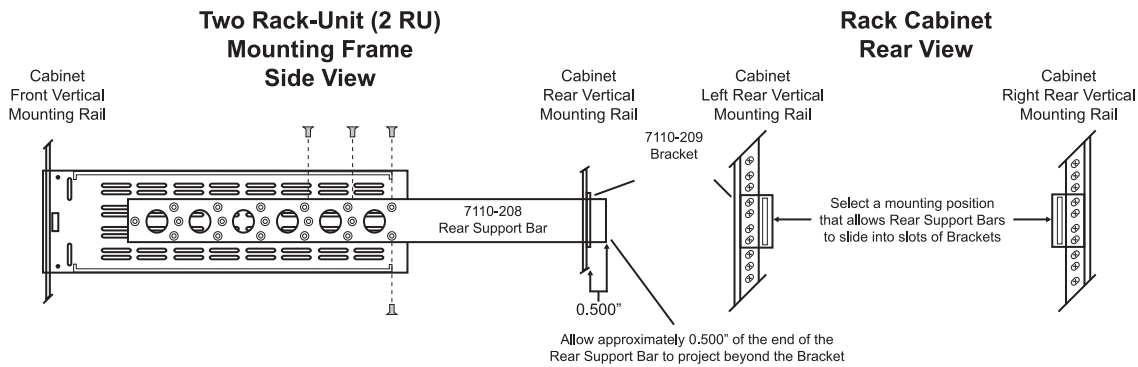

Figure 3.3 FSB-7110 Rear Support Bars and Brackets
The rear support bars can be attached to the DFR-8110A(-C) in six possible positions. (**Figure 3.3**)
2. Using four screws per bar, as shown in **Figure 3.3**, fasten one bar to each side of the DFR-8110A(-C).